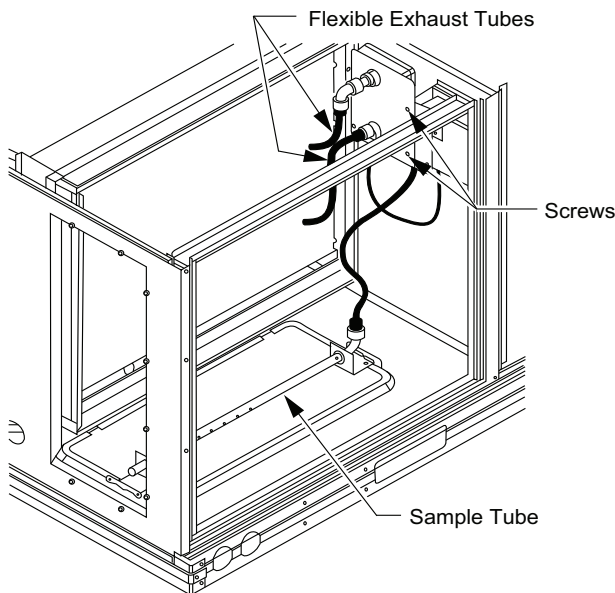

Fig. 40 — Return Air Smoke Detector Shipping Position
1. Unscrew the 2 screws holding the return air sensor detector plate. See Fig. 40. Save the screws.